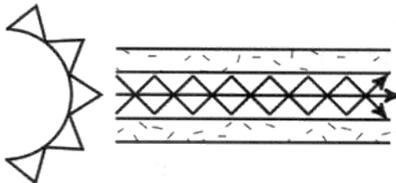

Figure 2: Multimode fibre
**Multimode cable and plastic optical fibres (POF)** (Figure 2) are made of glass fibres, with common diameters in from 50 to 100 micron for the light carry component (the most common size is 62.5). POF is a newer plastic-based cable which promises performance similar to glass cable on very short runs, but at a lower cost. Multimode fibre gives you broad bandwidth at high speeds over medium distances. Light waves are dispersed into numerous paths, or modes, as they travel through the cable's core typically 850 or 1300nm. Typical multimode fibre core diameters are 50, 62.5, and 100 micrometers. However, in long cable runs (longer than 3000 feet [914.4 m]), multiple paths of light can cause signal distortion at the receiving end, resulting in an unclear and incomplete data transmission.